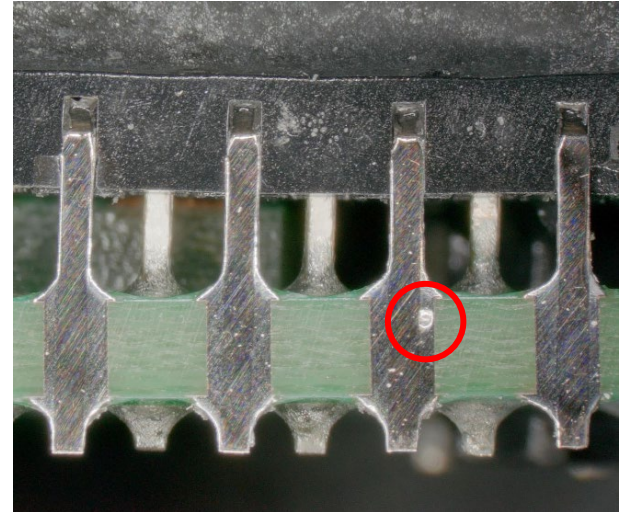

Figure 14: air cavity (cross section)
- less than 30 % air cavities, see figure 14.